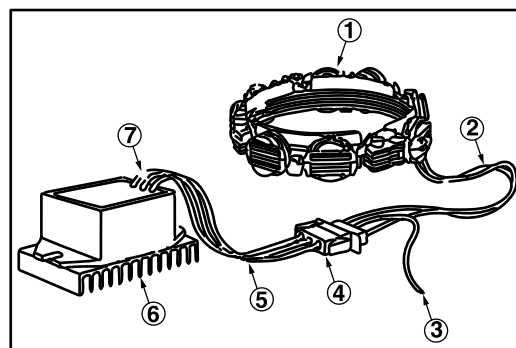

Figure 16
1. Stator assembly (1) (Figure 16)
2. Two YELLOW leads (2) from Stator.
3. RED DC output lead (3) from connector.
4. Connector (4)
5. Two YELLOW AC input leads (5)
6. Regulator-rectifier (6)
7. RED DC output lead (7) to connector